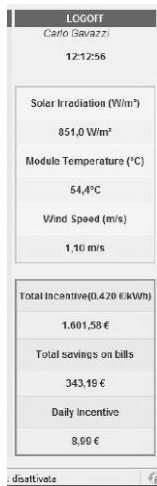

Fig 4
**4** On the right hands (Fig.4). Environment and Economic information such as: